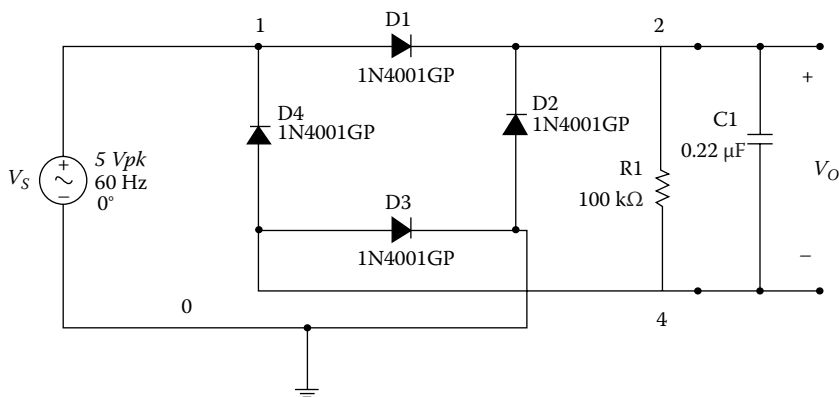

FIGURE P6.9
Problem P6.9 Figure P6.9 shows a bridge rectifier circuit with a smoothing filter. (1) Display the input and output voltages. (2) Measure the ripple voltage for source frequencies of 60, 120, and 180 Hz. (3) Calculate the ripple voltages for source frequencies of 60, 120, and 180 Hz and compare the calculated values with the measured ones.